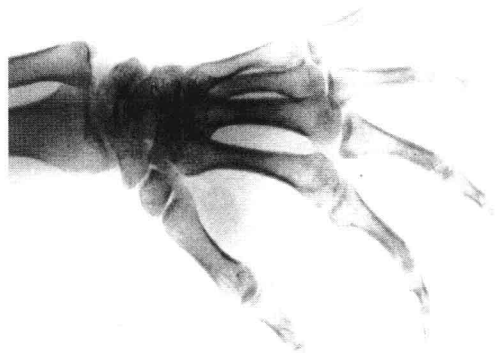

Fig. 1-4
3.4 Our body is just like a machine of which every part works accurately. Analyze your hand (see Fig. 1-4) by using knowledge learned in this chapter.
3.4 人体就如同一部机器，每一个部分都十分精密，请用本章学到的内容对自己的手（图 1-4）进行分析。（提示：可从机器的定义及组成等角度分析）